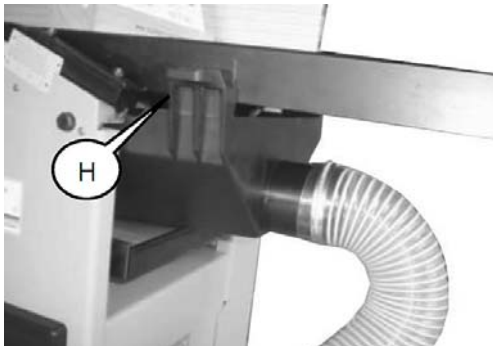
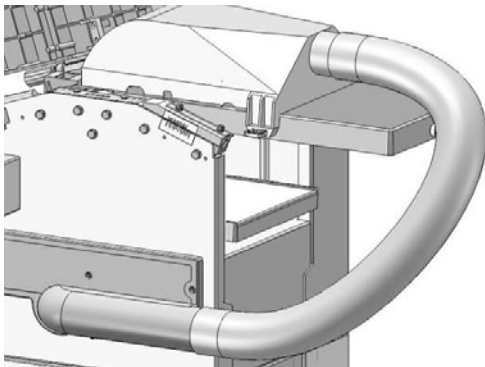

Fig. 25: Assembly of chip suction hood
Fig. 26: Connect suction hose
Step 5: Pull out the two brackets (H, Fig.25) of the suction hood.
The brackets (see Fig. 25) on the chip extraction hood activate a safety switch on the machine. If this safety switch is not activated, the machine cannot be started!
Step 6: Swing the suction hood upwards (Fig.26) and fix it in place using the two brackets (H, Fig.25). Ensure that it engages properly!
Step 7: Connect the suction hose to the suction socket of the machine frame and the suction socket of the planing table using a hose clamp (Fig. 26).